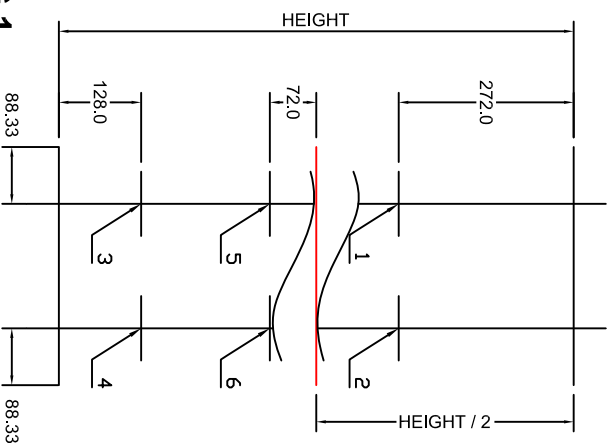
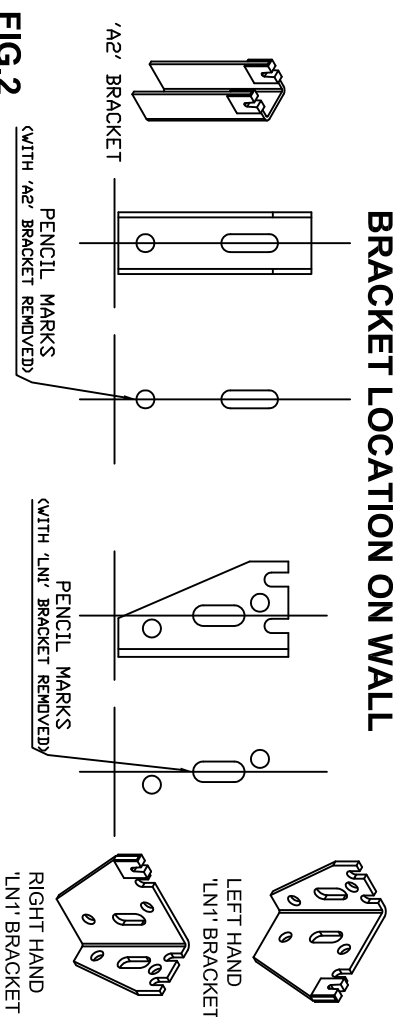

FIG.1
FIG.2
1. Choose the location where you wish to install the radiator and mark the positions for the wall brackets with a pencil as indicated in Fig.1
2. Measure the length 'L' & height as indicated in Fig. 1
3. Place the wall brackets over the pencil marks on the wall as show by points 1, 2, 3, 4, 5 & 6 in Fig. 1 and mark the positions of the wall plugs and screws, as indicated in Fig.2 please note points 5 & 6 are only on radiators over 1900mm high.